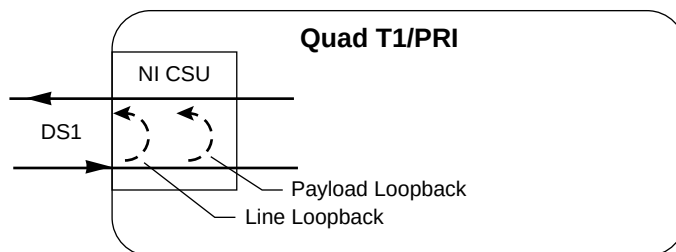

Figure 3-3. Network Loopback Test
- Payld — Payload loopback - framing and clocking are regenerated (See Figure 3-3.)